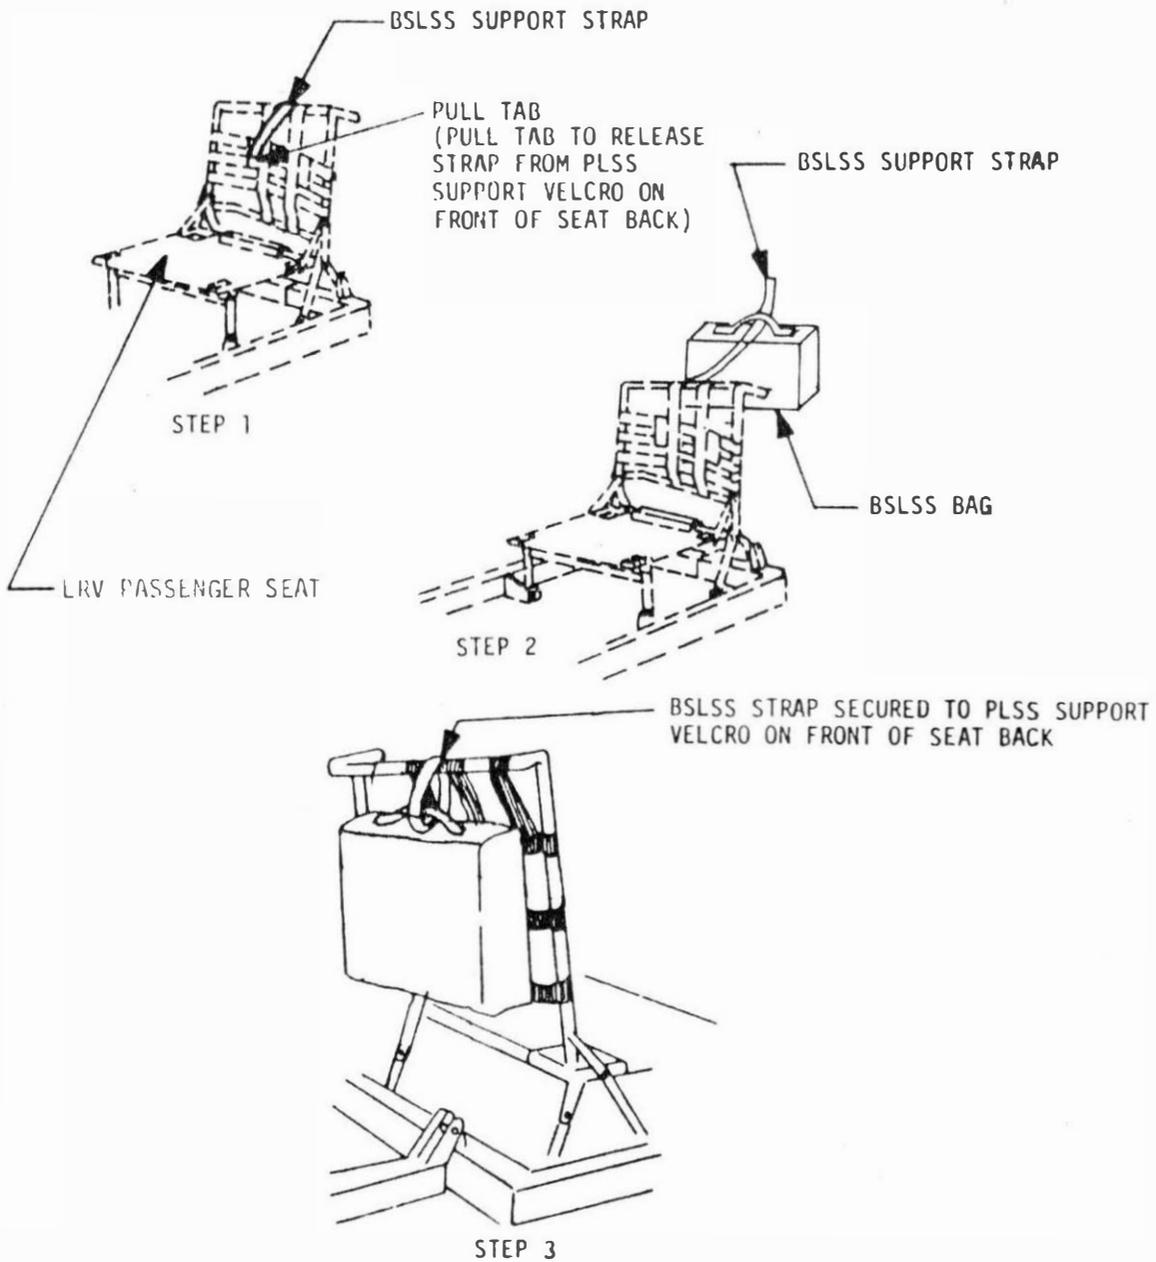

FIGURE 2-18 BUDDY SLSS INSTALLATION
c. Feed strap through BSLSS bag handle and secure to PLSS support velcro on front of back seat.	Figure 2-18.